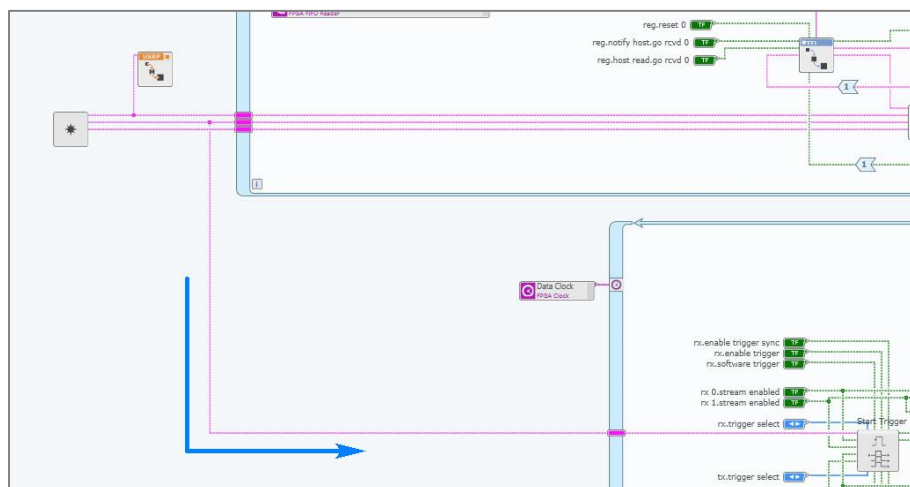

Figure 81: Rewire Cluster Wire to Start Trigger
- a. Rewire the “sync.resources” cluster wire from the “Create Recources.gvi” to the “Start Trigger.gcdl” as shown in Figure 81.